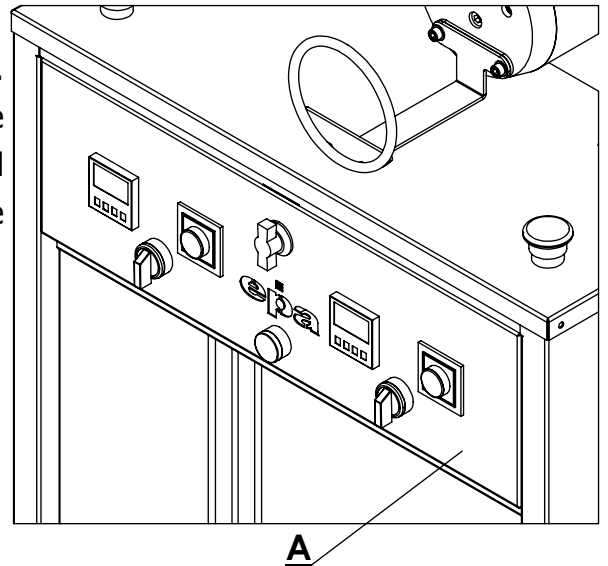

Figure.1
Open the back door to connect power cable. (Figure.1-A) Pass cable from holes of cable on the machine. Connect phase (L) and neutral (N) soil connections related terminals. Provide 220 voltage power to machine.